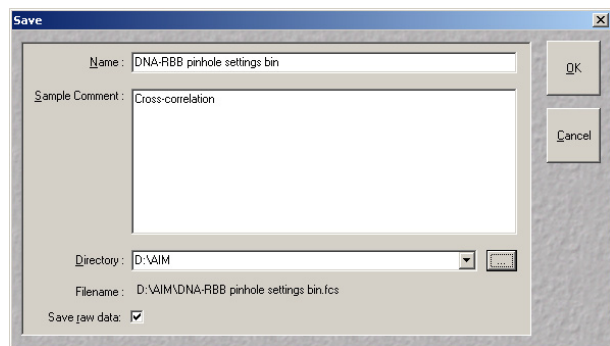

Fig. 4-126 Save window
- **Save** allows you to save the whole data set (curves, fitting results, fit parameters, raw data) to disk. If **Save** is selected, the **Save** window appears (see Fig. 4-126).